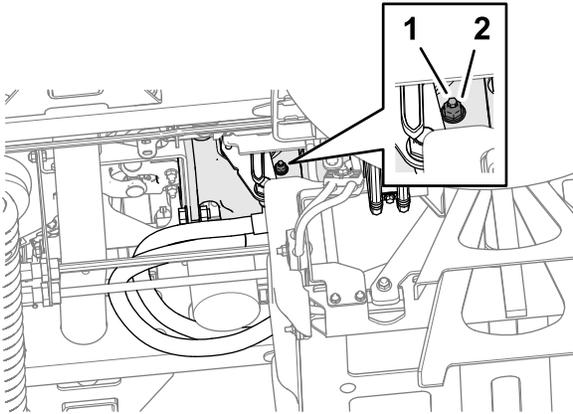

Figure 106
- From the bottom of the machine and at the right side of the traction pump, loosen the locknut that secures the neutral return-adjustment screw (Figure 106).